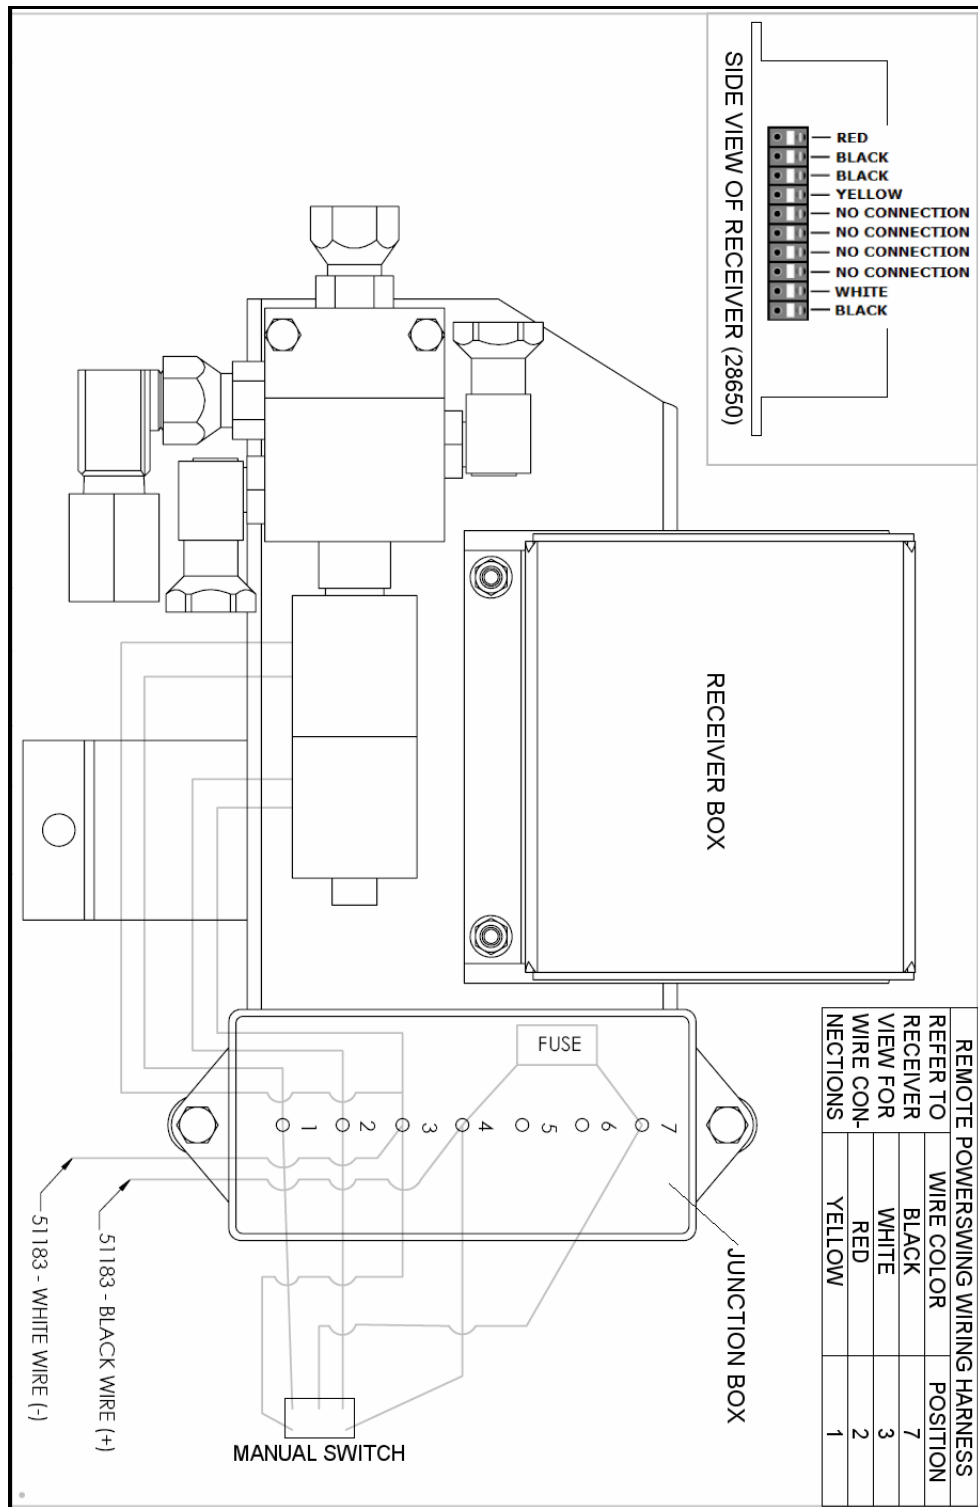

Figure 6.1 Powerswing Wiring Schematic
1. Open the junction box and check for corrosion and assure all connections are tight (see Figure 6.1).